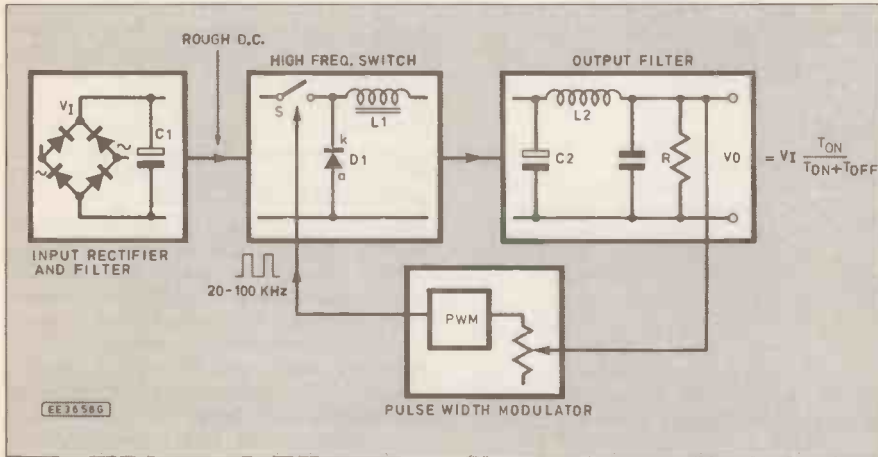
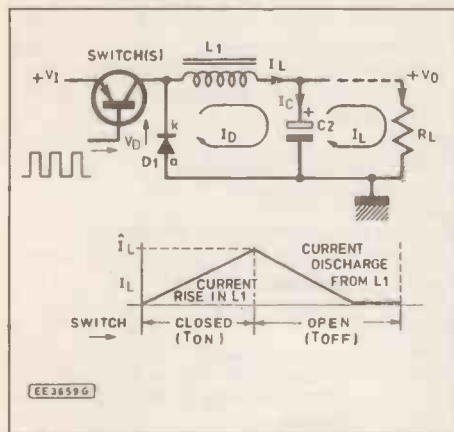

Fig3. Block diagram of a switch-mode type regulator system.
Fig.4. Operating cycle of the filter circuit showing the inductor current waveform.
The principle of a switch-mode regulator is shown in Fig. 3. A source of d.c. voltage is obtained from a bridge rectifier and initially smoothed by a capacitor C1 in the conventional manner. This unregulated d.c. now passes through an electronic switch S which turns on and off at a relatively high frequency; this might well lie within the range 15kHz to 100kHz, sometimes more.
circuit in rather more detail if we look at Fig. 4.
At the instant the switch opens, the current through the inductor is at its peak value; this current cannot fall to zero instantaneously any more than it could rise instantaneously, and a back e.m.f. is developed across the inductor to oppose the fall. The diode D1 now comes into the action by being suddenly forward biased, so providing a path for the current from the inductor to flow around the loop into the filter capacitor and the load. Hence current continues to flow into the load even when the switch is open. Fig. 4 illustrates the effect of current discharge from inductor to capacitor and load.
If the electronic switch (S) depicted in Fig. 3 and Fig. 4 was on all the time, the input and output voltages would be identical. If the switch was off all the time, the output would be zero.
If the variable duty cycle waveform is applied to act as the control parameter of the switching regulator of Fig. 4, then the voltage will be controllable over a wide range and provide an adjustable and stabilised output.